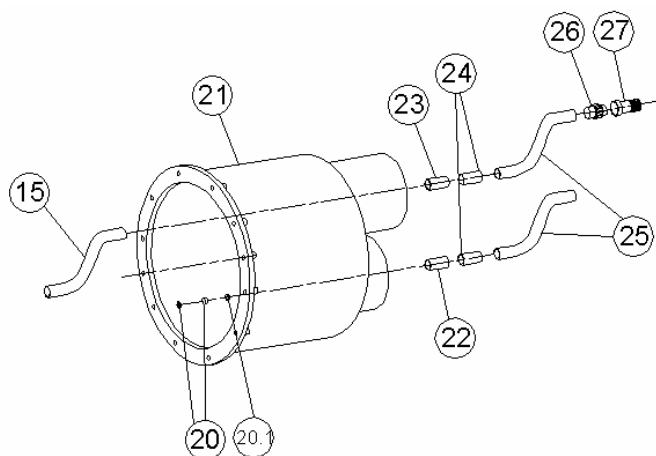
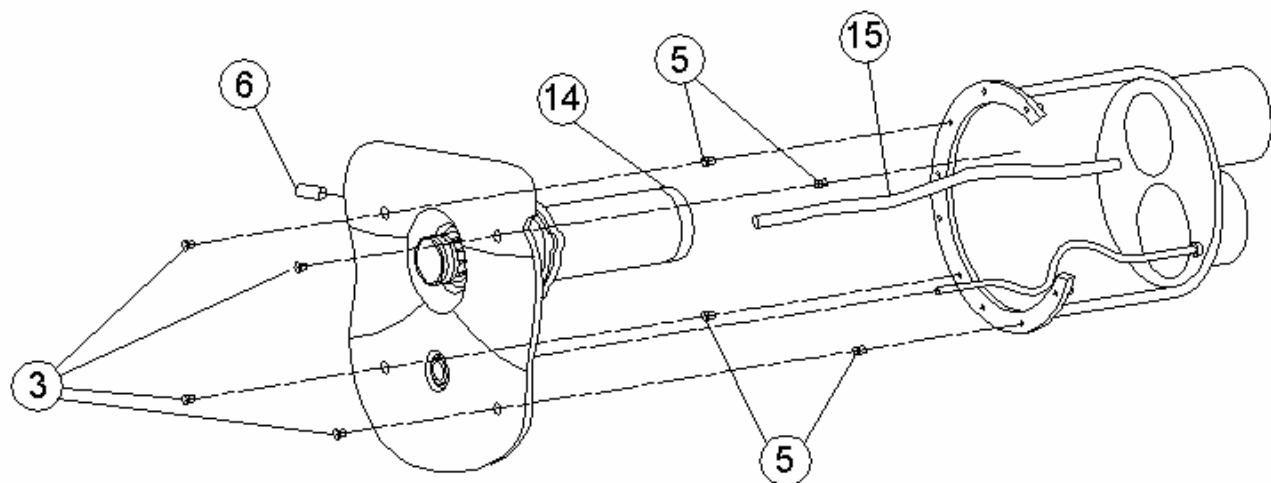

FIG. 2
FIG 5
El tubo transparente (nº2 fig 2) lo conectaremos al micro-interruptor situado en la parte superior izquierda del cuadro, es muy importante asegurarse de que el tubo transparente no queda doblado.
To fix the niche (N°21 Fig. 2) in concrete wall, only the instructions given in chapter 2 (place of installation) need be followed.
The niche is supplied with pipes n° 22 and 23 (Fig 2 already installed. Additionally, one of the hoses (n°24, fig 2) is supplied glued inside pipe n° 22. Once the niche has been fixed to the wall, following the instructions given in chapter 2, proceed to install the pneumatic and air lines.
This line is made up of a hose (n°24), a flexible pipe (n°25), a male screw fitting (n°26) and a foot valve (n°27). All these parts are supplied fitted, so it is only necessary to glue the end of the hose (n°24) to the pipe (n°23) which is already fitted in the niche. It is important to fix the air line pipe to the wall of the housing so as to ensure that foot valve is in the upper part. This is so as to avoid sucking up dirt. Lastly, install the flexible pipe (n°15 fig 2) pressing it inside the nozzle in the interior of the niche (see Fig. 5, page 17).
The complete front is supplied assembled, from part nº1 to nº14 (see fig.3), with the exception of the transparent pipe (nº2), which is already fitted in the niche (see fig.5).
-Connect pipe nº15, inserting it into the nozzle (nº6) on the front piece (see fig 5).
-Screw the four spacing screws (nº5) into the niche (see fig.5).
-House the complete front piece in the niche, ensuring that o-ring (nº14) is inserted in the orifice on the discharge side (Ø75 mm.), see fig.5.
-Tighten the four screws (nº3) (see fig 5). Once they are tight the front is fully in place.